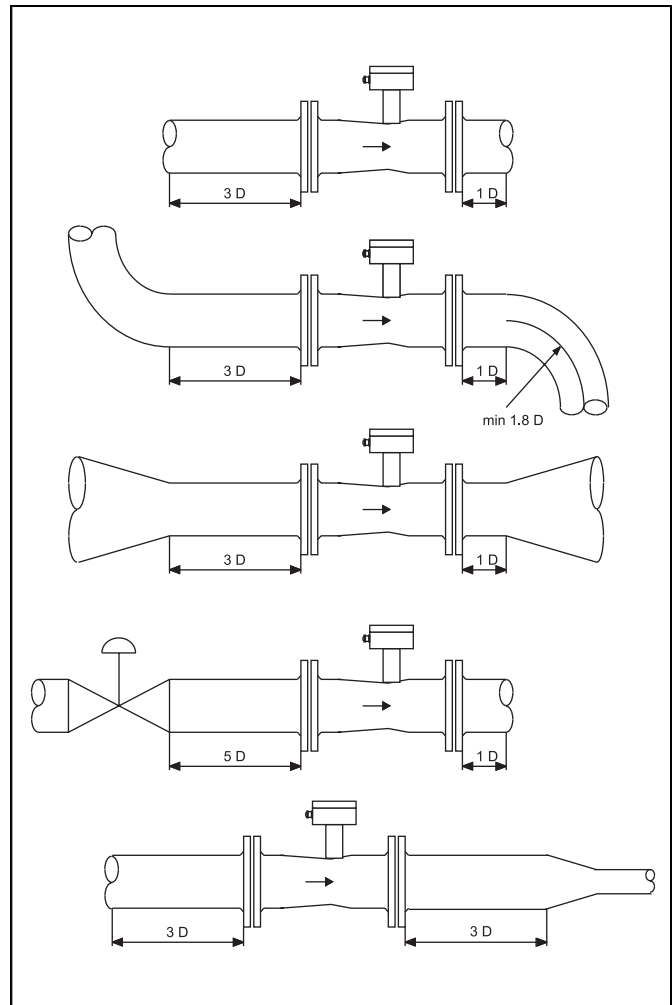

Fig. I-4 In- and Outlet Straight Sections
- the recommended lengths of the in- and outlet straight sections are maintained (Fig. I-4);
Fig. I-4 shows the recommended in- and outlet sections for various installation conditions. Additional in- and outlet sections are not required for single and double elbows installed up- or downstream from the flowmeter, when their radius is greater than $1.8 \times D$, nor are additional in- and outlet sections required when the flowmeter is installed downstream from a flanged reducer per DIN 28545 ($\alpha / 2 = 8^\circ$).